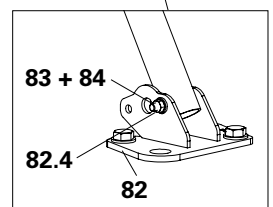

Fig. C4.04c
5. Fix Base Plate EWB (**82**) to the substrate. (Fig. C4.04c)